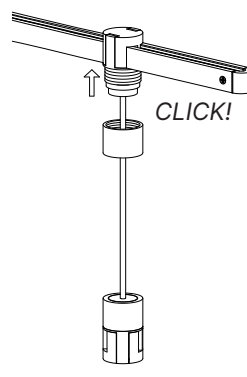

Fig. 11
2. Insert the **Hanger Clip** through the **Hanger Hub** and press up on the Hanger Clip until Hanger Clip clicks into place (Fig. 11).